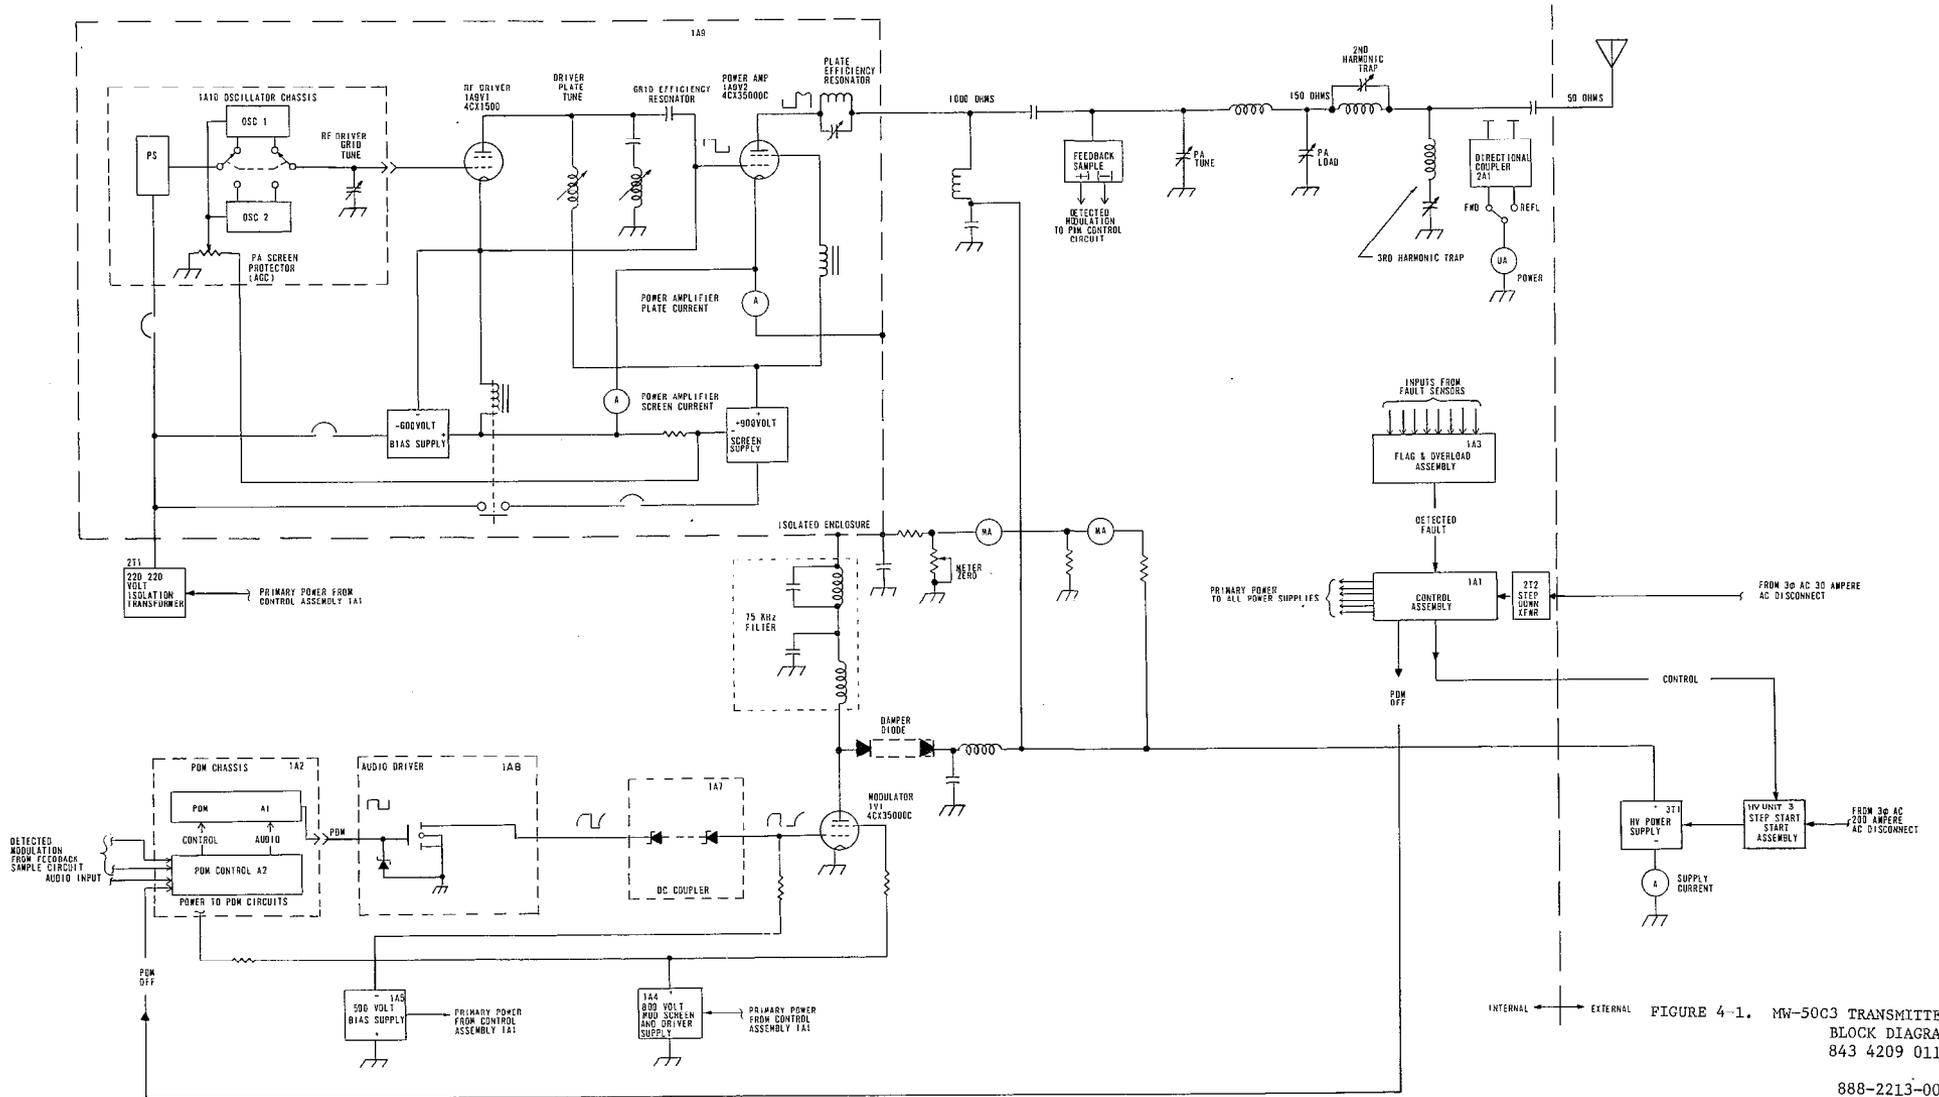

FIGURE 4-1. MW-50C3 TRANSMITTER
4-5. The RF Section consists of Oscillator Chassis 1A10, RF Driver 1A9V1 and plate Modulated Power Amplifier 1A9V2 (refer to figure 4-1). These three basic stages with associated power supplies and metering are contained in an Isolated Enclosure which operates above ground potential. This enclosure is at the cathode potential of the Power Amplifier or 15kV for carrier conditions and varies from near zero to full supply voltage during the modulation cycle. Access to the Isolated Enclosure is accomplished through an interlocked rear door or an interlocked front door.
4-7. RF DRIVER 1A9V1. The RF Driver consists of one 4CX1500A Tetrode Power Tube as shown in figure 4-1. The plate-to-cathode voltage of this tube is a summation of the Bias Supply and the Screen Supply voltages (1500 Vdc). The plate circuit of the RF Driver is tuned to both the fundamental carrier frequency and the 3rd harmonic of the carrier frequency. Tuning the plate circuit in this manner provides a near square wave pulse to drive the PA.
4-10. ISOLATED ENCLOSURE POWER SUPPLIES. Two power supplies are contained within the Isolated Enclosure (refer to figure 4-1). A 600 Vdc Bias Supply provides fixed grid bias to the Power Amplifier and a 900 Vdc Supply provides PA screen current. The two supplies are connected in series to provide 1500 Vdc for the RF Driver. Relay K1 is an under-voltage relay that prevents the PA Screen Supply from operating should the Bias Supply fail. The 230 Vac primary power for the Isolated Enclosure power supplies is furnished by isolation transformer 2T1.
4-11. OUTPUT NETWORK. The Output Network, as shown in figure 4-1, is a conventional double Pi circuit that matches the 1000-ohm PA Tube load to the 50-ohm Antenna System. The Power Amplifier is tuned by adjusting the plate tuning capacitor for a dip in PA plate current. The PA is loaded by adjustment of the PA loading control. The 2nd and 3rd harmonic traps are located at the end of the output network to provide adequate harmonic attenuation.
4-14. The Modulator Section uses a HARRIS CORPORATION Broadcast Transmission Division patented Pulse Duration Modulator (PDM). The PDM is unique in that it provides conventional plate modulation of an RF Power Amplifier Tube at an efficiency of approximately 90 percent, using no modulation transformer or reactor. Refer to figure 4-1 for the following discussion.
4-25. MW-50C3 PDM CIRCUITRY. The output of a 75 kHz Oscillator (refer to figures 4-1 and 4-4) is clipped to form a square wave and integrated to form a triangle waveform. This voltage (B) is summed with audio (A) at the input of a threshold amplifier (C). The output of the amplifier is a modulated pulse train (D) where amplitude changes in the audio input appear as duty cycle changes of constant amplitude rectangular waves.
4-27. PDM CIRCUIT. The PDM Chassis shown in figure 4-1, consists of a PDM board on a control and feedback board. The PDM generates the 75 kHz pulse trains which is modulated with the audio signal to provide pulse width modulation. The control and feedback circuit provides power control and overall feedback to reduce distortion. The output from the PDM is a pulse width modulated square wave that drives the Audio Driver Tube. The output from the Audio Driver Tube is offset by a string of Zener diodes and a dc coupler, which drive the Modulator Tube operating as a square wave amplifier. The plate of the Modulator Tube swings from the high-voltage power supply, approximately 25kV, to near ground potential at a 75 kHz rate with only the width of the pulse changing. The pulses are filtered and the dc and audio are left at the Isolated enclosure. The PA plate voltage is then equal to
4-28. **DAMPER DIODE.** The Solid-State Damper Diode Assembly is connected between the modulator plate and the positive side of the High-Voltage Power Supply (refer to figure 4-1). The Damper Diode conducts alternately with the Modulator, ON when Modulator is OFF and OFF when the Modulator conducts, at the 75 kHz rate. When the Modulator Tube suddenly stops conducting, current to the 75 kHz Filter cannot stop and voltage at the plate of the Modulator Tube increases towards infinity. When the voltage of the plate of the Modulator Tube attempts to go higher than the High-Voltage Power Supply potential, the Damper Diode conducts, eliminating high-surge voltage build up which could damage the modulation system. The alternating modulator/damper conduction provides a steady current load on the High-Voltage Power Supply. The damper current accounts for the difference in plate and supply currents, even though the PA and Modulator stages are connected in series.
4-31. The Control Circuits consists of Control Assembly 1A1 and High-Voltage Step/Start Assembly 3. Refer to figure 4-1 for the following discussion.
4-35. FAULT AND OVERLOAD ASSEMBLY 1A3. The Fault and Overload Assembly shown in figure 4-1, receives status information from various sensors throughout the transmitter. The circuit monitors transmitter operation, provides visual indications of where a fault or overload occurred and initiates action to turn off high voltage and shut down the transmitter if a fault is detected. Parameters monitored include (1) VSWR, (2) high-voltage current, (3) arcs in the PA circuit, (4) output circuit arcs, (5) Modulator Screen current, (6) arcs at 75 kHz Filter gaps, and (7) arcs across Plate Efficiency Resonator gap.